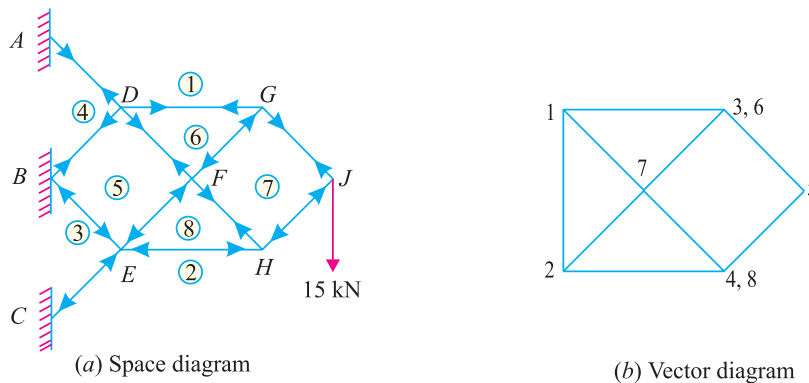

Fig. 14.30.
**\*Solution.** First of all, draw the space diagram and name all the members and forces according to Bow's notations as shown in Fig. 14.30 (a).
Now draw the vector diagram as shown in Fig. 14.30 (b), starting from the joint J, Measuring the various sides of the vector diagram, the results are tabulated here :